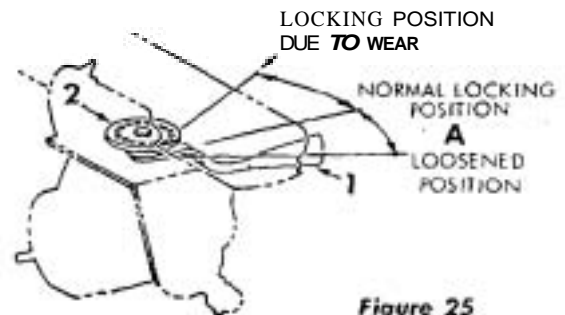

Figure 25
These are controlled by the swivel latch pin knob (2, figure 25) and the yoke clamp handle (4). The swivel latch pin knob automatically indexes the yoke at each **90°** position. Lift the knob to **release**. The yoke clamp handle (4) locks the yoke to the carriage in any position. Pull the handle to release. Push it to tighten.
The normal locking position of the yoke clamp handle (1), figure 25) is approximately midway between the two sides of the yoke.
2. Set yoke clamp handle to Position "A", (figure 25), which is just slightly ahead of the mid-position of handle.
7. Using a screwdriver or similar tool, rotate the yoke clamp assembly (2, figure 25) clockwise (when looking down) until the next hole will line up with the lock screw (See figure 28). Usually, rotating the yoke clamp assembly one hole will correct this adjustment. However, in some cases it may be necessary to rotate it two holes.